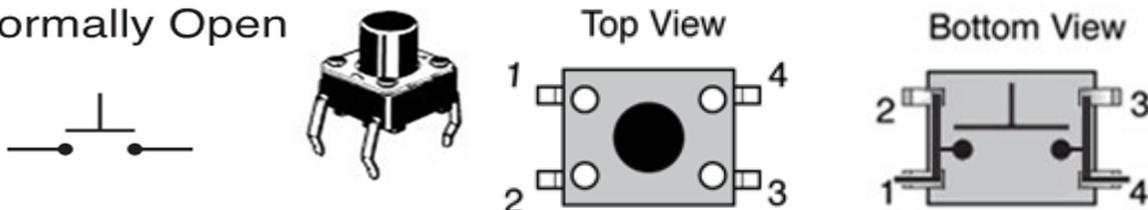

Figure 5.1 Normally Open Single-Pole, Single-Throw Push Button Switch Schematic, pictorial, and Wiring views
This part of the lab investigates how we can use the Arduino to sense digital ON/OFF inputs. The simplest digital ON/OFF input device would be one that can be approximated by a switch closure. Included in your components kit is a Push-Button Switch. **Push Button Switches** are **Single Pole, Single Throw (SPST) inputs** that can be either Normally Open (NO) – meaning that they are initially **OFF** and no current flows through them as seen in Figure 5.1. Or, they can be Normally Closed (**NC**) – meaning they are initially **ON** and current flows easily through them as seen in Figure 5.2: